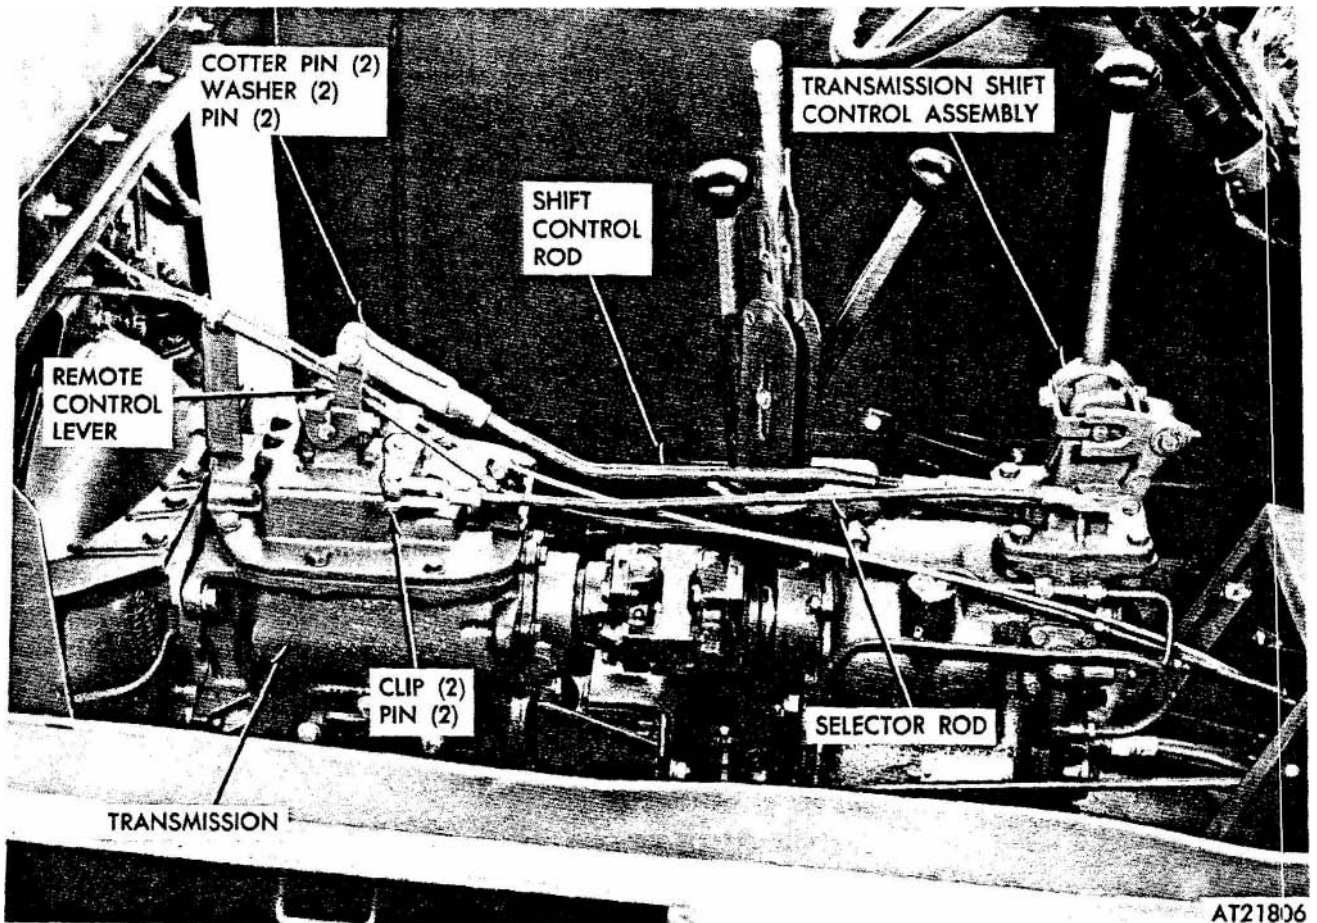

Figure 2-153. Transmission control and linkage, removal and installation.
cotter pins, clevis pins, and washers (fig 2-153).
- (1) Position shift control assembly to transfer case and secure with bolts, lock washers, and nuts (fig 2-153).
- (2) Position selector rod to control lever on